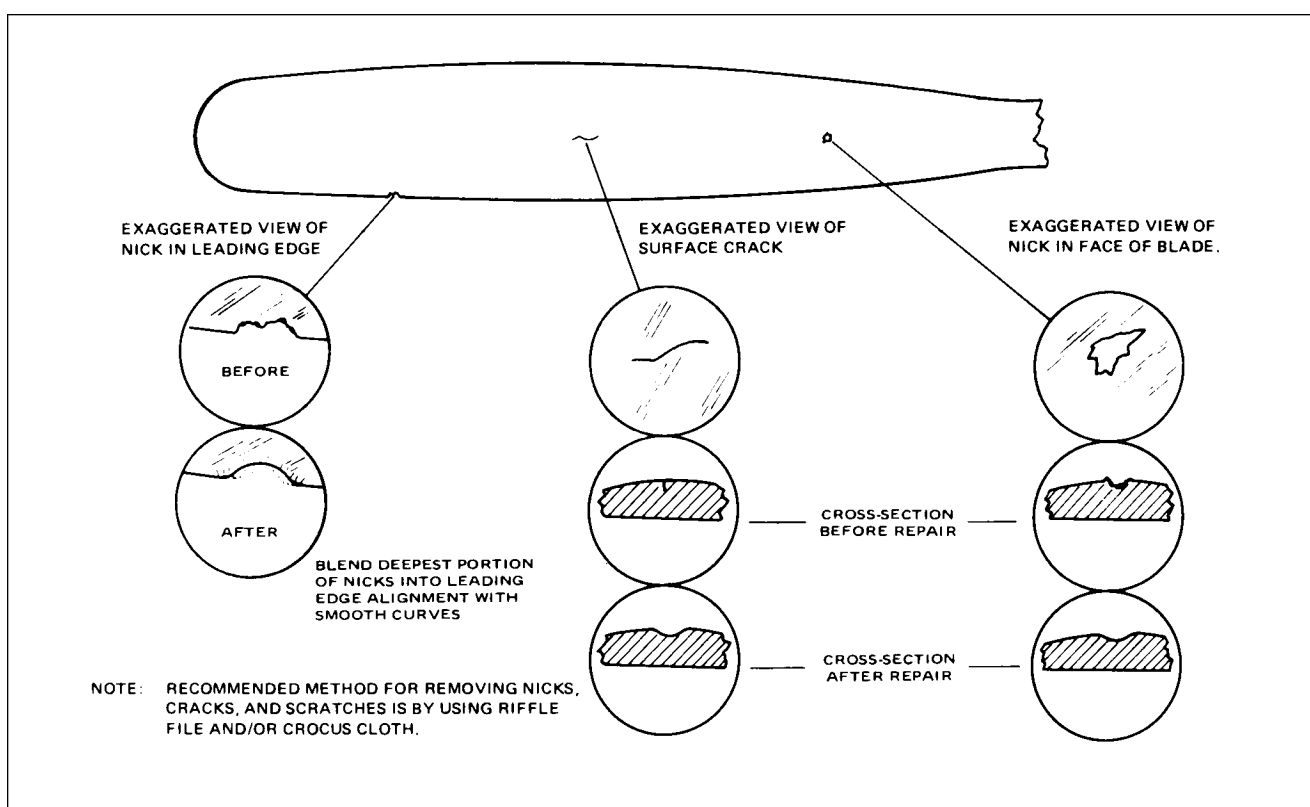

Figure 61-6. Propeller Blade Minor Repair
5. Inspect blades for nicks and cracks. Refer to Figure 61-6 for propeller blade minor repair. Nicks in leading edges of blades should be filed out and all edges rounded, as cracks sometimes start from such places. Use fine emery cloth for finishing.